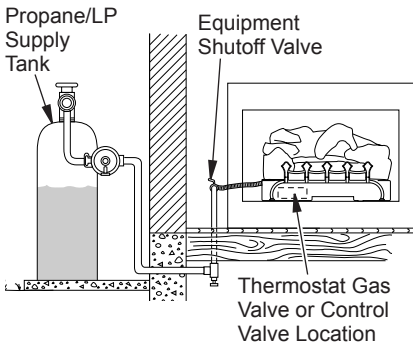

Figure 17 - Checking Gas Joints
3. Check all joints from gas meter for natural gas or propane/LP supply to equipment shutoff valve (see Figure 17 or 18). Apply a commercial leak detection solution to all joints. Bubbles forming show a leak.
4. Check all joints from equipment shutoff valve to thermostat gas valve (Thermostat-Controlled Models) or control valve (Remote-Ready Models) (see Figure 17 or 18). Apply a noncorrosive leak detection fluid to all joints. Bubbles forming show a leak.